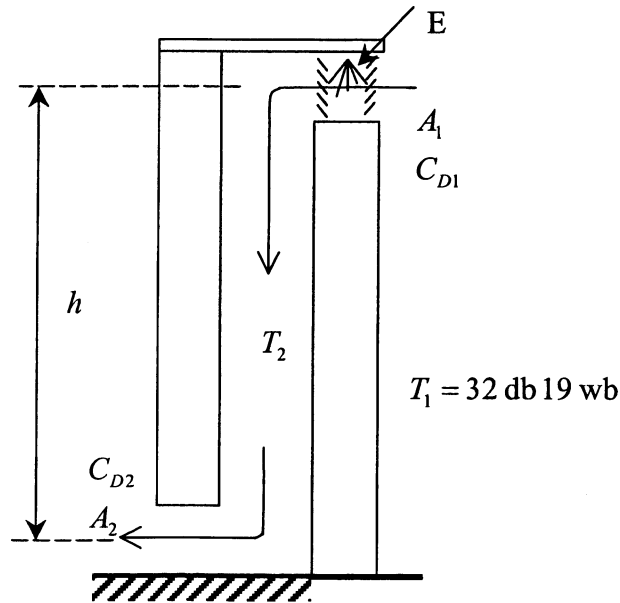

Fig. 1
- 1 Fig. 1 shows a vertical section through a building with a central atrium.